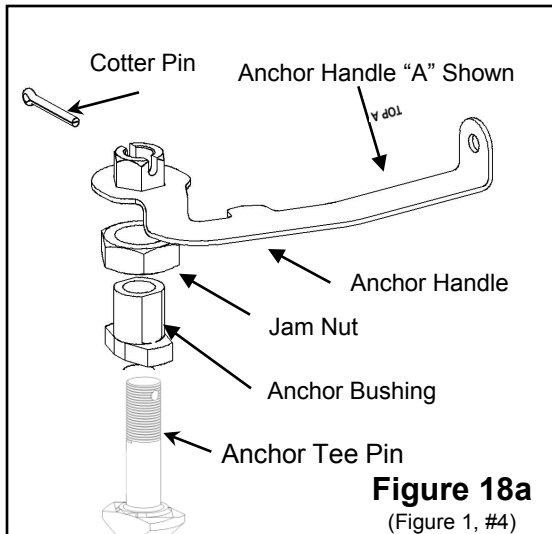

Figure 18a
11. Remove the rails (Figure 1, #20) from the truck bed and prepare for installing the Anchor Tee Pins, Anchor Handles and the 3/16" cotter pins (Figure 1, #4). (Install the Anchor Tee Pin (Figure 1, #4) by inserting it up through the Anchor bushing (Figure 1, #4) and threading it into the Anchor Handle (Figure 1, #4). See Figure 18a. Each slider rail (Figure 1, #20) gets one of each anchor handle (Figure 1, #4) (Anchor Handle "A" & Anchor Handle "B"). See Figure 19 for correct handle orientation. The Anchor Tee Pin (Figure 1, #4) should be threaded as far as it can go into the Anchor Handle (Figure 1, #4). The hole in the Anchor Tee Pin (Figure 1, #4) will probably not line up with the slot in the Anchor Handle nut (Figure 1, #4) at this point and should be turned back slowly until they are inline. Once aligned, rotate the Anchor Tee Pin (Figure 1, #4) 540 degrees (1 1/2 times) counter clockwise until the hole and slot re-align. The 3/16" cotter pin (Figure 1, #4) can now be inserted into the hole. Once the 3/16" cotter pin (Figure 1, #4) is in place, pry open the ends and bend them back on themselves to secure. See Figures 18a, 18b & 18c.